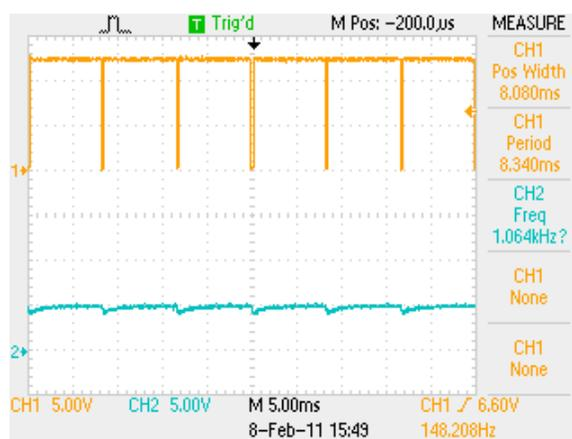
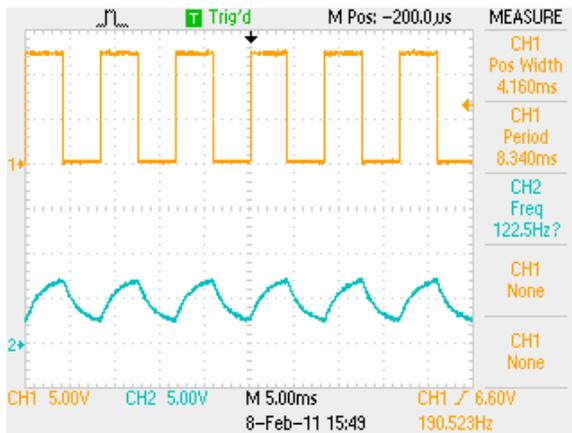

Figure 4 VCO control voltage and phase detector waveform, SIG HI = 0.5 Vdc
Figure 6 VCO control voltage and phase detector waveform, SIG HI = 2.75 Vdc
10.8. Observe the voltage at TP4 to verify that the PLL is in lock. The TP4 voltage should be (+/- .2V) centered at 5 Vdc with a variable amount of ripple dependent on the SIG HI signal. The TP4 ripple will be at its minimum value at the minimum and maximum SIG HI voltages, as in Figures 4 and 5, respectively. The TP4 ripple will be at its maximum value when the delay angle command is near $\alpha = 90^\circ$ as in Figure 6. Sweep the SIG HI voltage over the full range to ensure that the average voltage does not deviate from 5 Vdc.